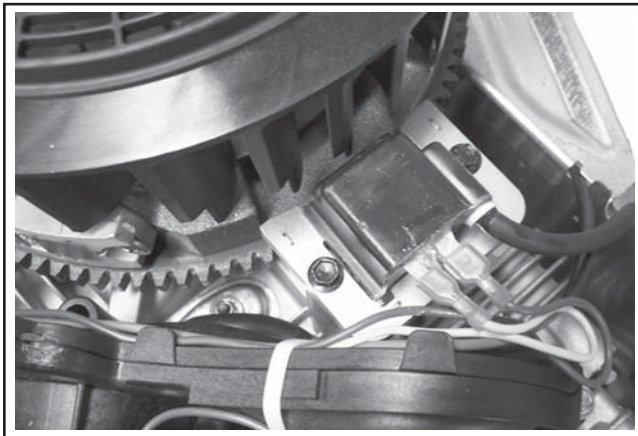

**Figure 10-60. Sealant Applied to Terminals.**
**NOTE:** If the wires were disconnected from the ignition modules on engines with DSAM, reattach the leads and seal the base of the terminal connectors with GE/Novaguard G661 (Kohler Part No. 25 357 11-S) or Fel-Pro Lubri-Sel dielectric compound. The beads should overlap between the terminals to form a solid bridge of compound. See Figures 10-60 and 10-62. Do not put any compound inside the terminals.